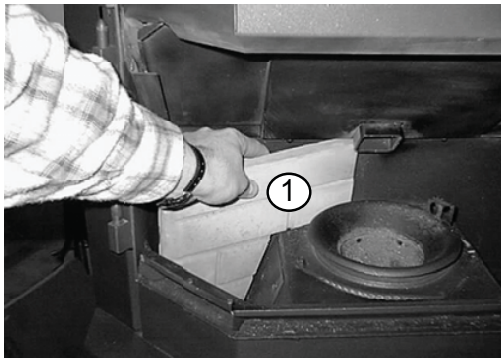

Figure 20.1
2. Slide bottom of left rear brick in first; rotate top edge toward rear of appliance and then rotate outer edge toward rear of appliance, until brick slides into place. **Figure 20.1.**